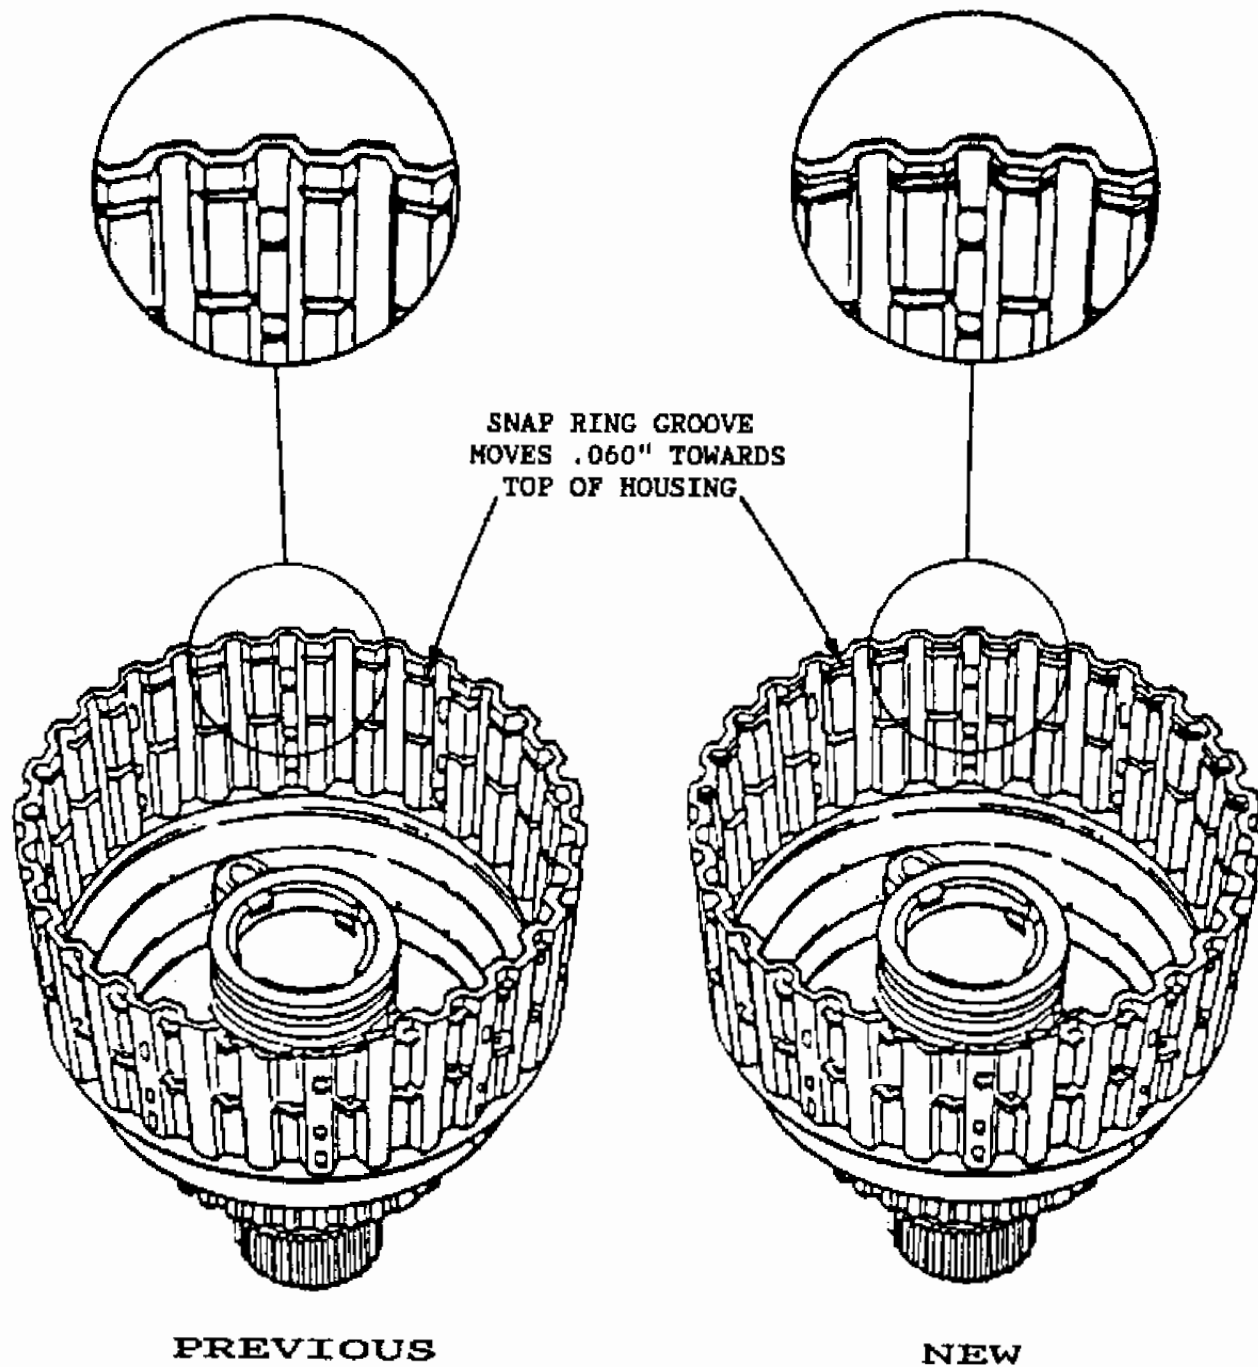

Figure 35
- (2) INPUT HOUSING - Top snap ring groove moves .060" closer to the top of the input housing, to accomodate the added wave plate (See Figure 35).